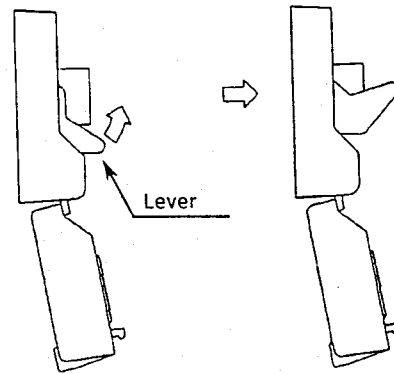

Fig. 5-2
2. Lift up the lever (see Fig. 5-2).